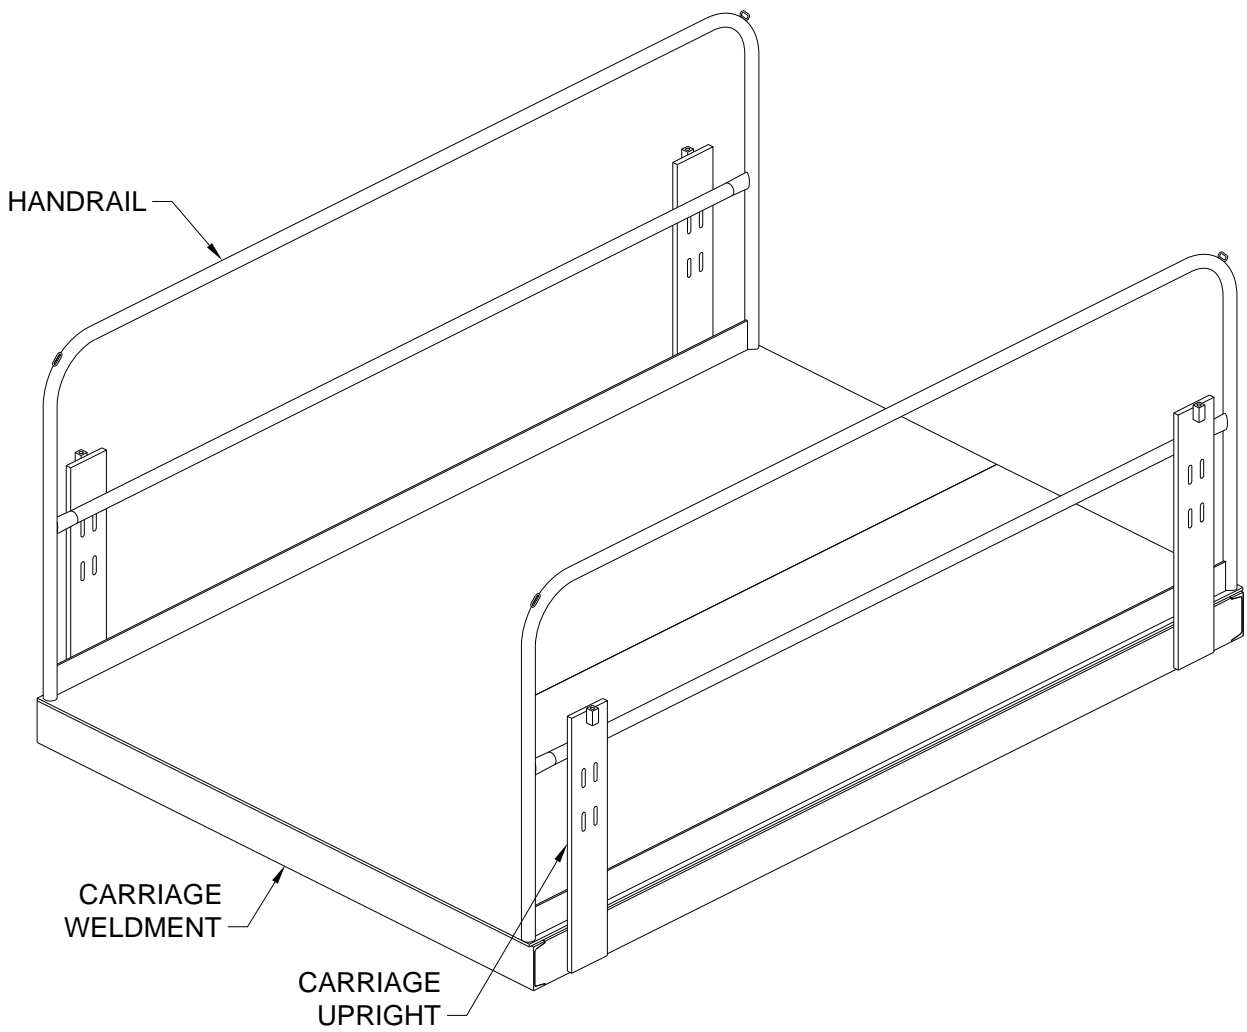

Figure 17 Carriage Assembly
1. Attach handrail(s) or side guards by positioning as shown in **Figure 17** and the General Arrangement drawing by welding into place with a minimum 1/4" fillet, 2" on 10". Grind welds and touch up the paint where necessary.